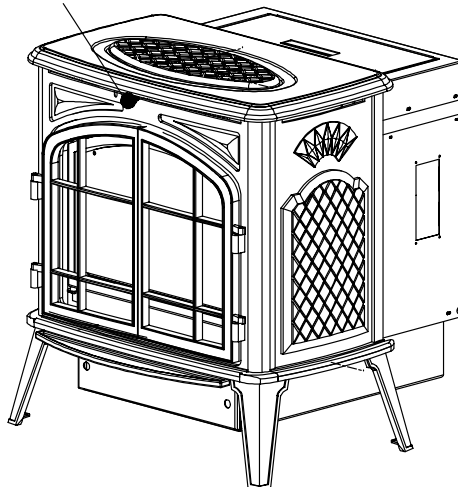

Figure 23. Tube scraper rod to clean the heat exchanger pipes.
1. Pull and push the heat exchanger tube cleaning rod which is located in the center, above the door (See Figure 23) when the stove is cold. This will remove the ash deposits on the heat exchanger tubes. The removed ash will fall on the top heat shield, located in the burn chamber.